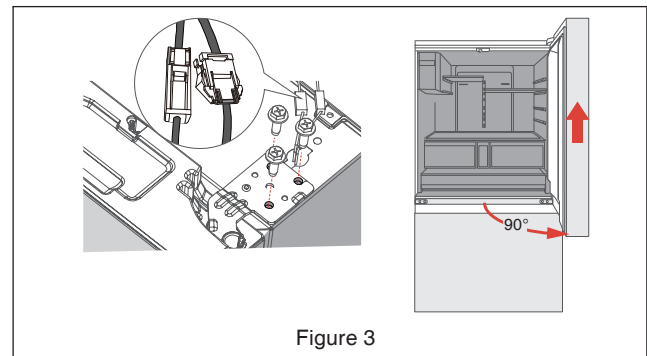

Figure 3
B. Open the right door 90°, lift it up, then remove the door from the product. See Figure 3.